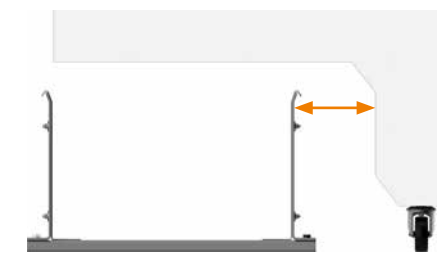

Fig. 3
- As straight as possible to avoid friction between the sidebands and the walls of the channel (Fig. 3)